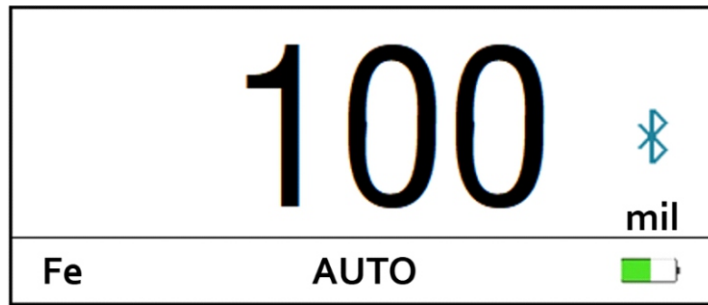

Figure 24: Open Bluetooth Settings
a) In the instrument, set Menu $\rightarrow$ Bluetooth Settings to ON. Once successfully enabled, the measurement interface will display the Bluetooth icon, as shown in Figure 24;